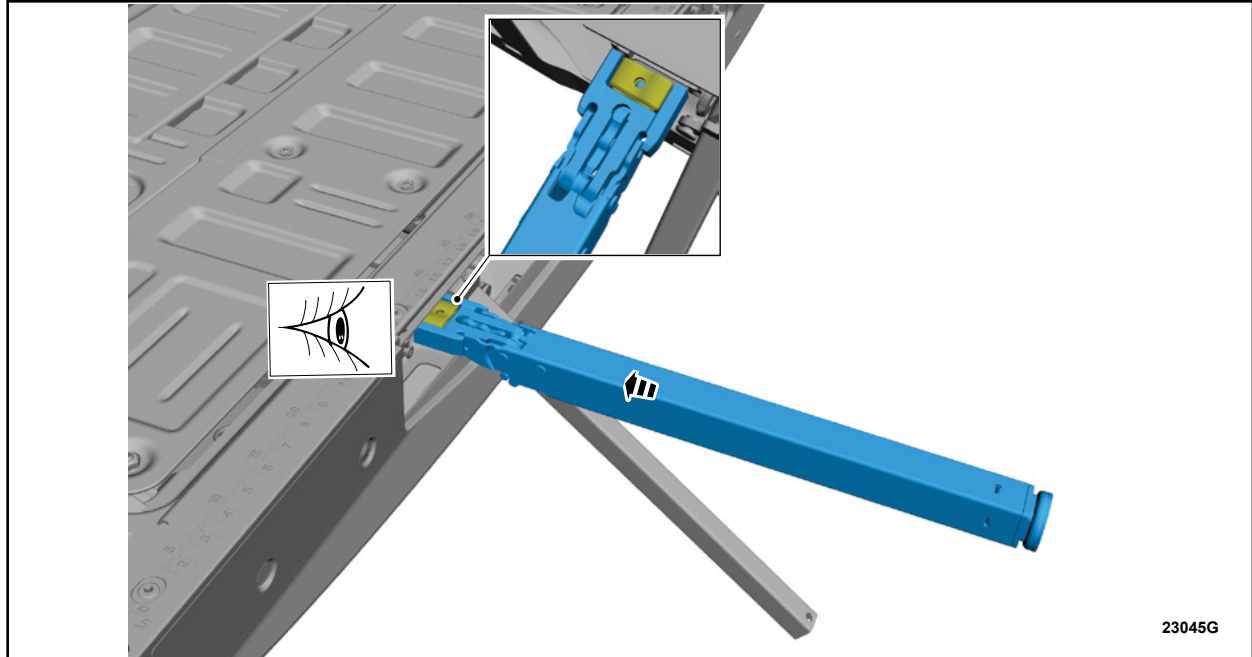

FIGURE 8
5. Place plastic grab handle slider insert into the nest of the grab handle sub assembly slider and slide the grab handle into the step bracket. See Figure 8.